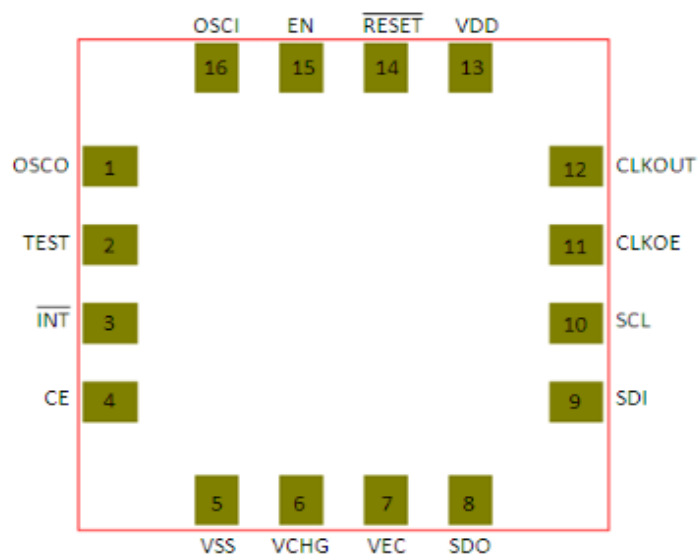

Figure 4: CBC34123 EnerChip™ RTC Package Pin-Out (top view, looking through package)
| High Level Output Voltage   | V OH | V DD > V TH (see Figures 4and 5) I L =10μA | V DD -0.04V (1) | -    | Volts |